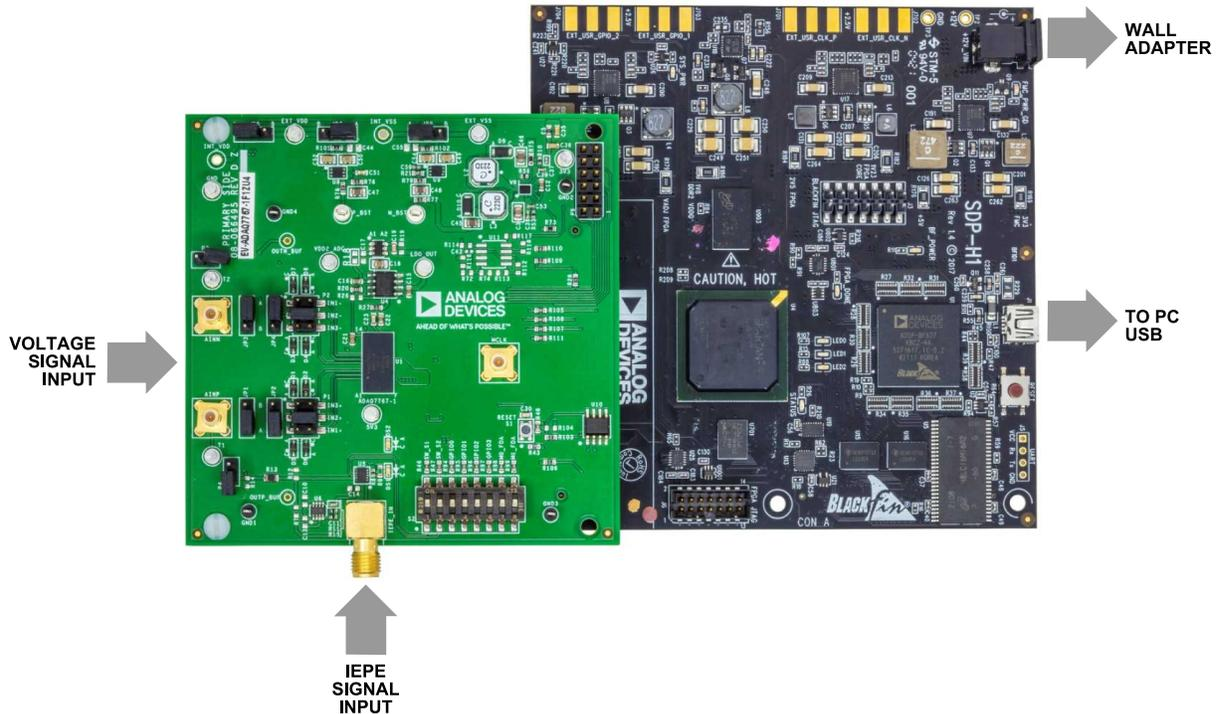

Figure 2. Evaluation Board Setup
2. Connect the SDP-H1 controller board to the unpowered EV-ADAQ7767-1FMC1Z evaluation board. The J4 connector of the SDP-H1 board connects to the receiving socket, P5, on the EV-ADAQ7767-1FMC1Z printed circuit board (PCB), as shown in Figure 2.